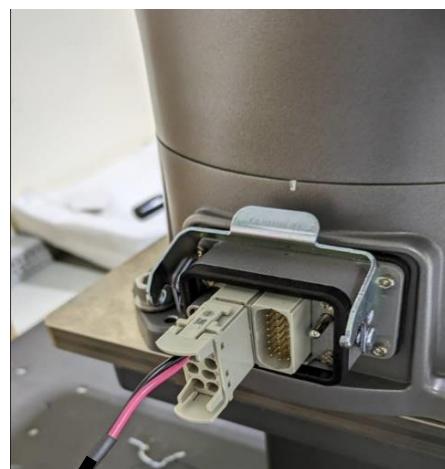

Figure 3: External brake release setup (using the robot base)
1. Plug the connector for externally force-releasing the brakes into the control box connector (see Figure 2) or the robot base (see Figure 3). The external brake release cable (AWG No.: 18; length: 3 m) is included in a TM Robot package box.